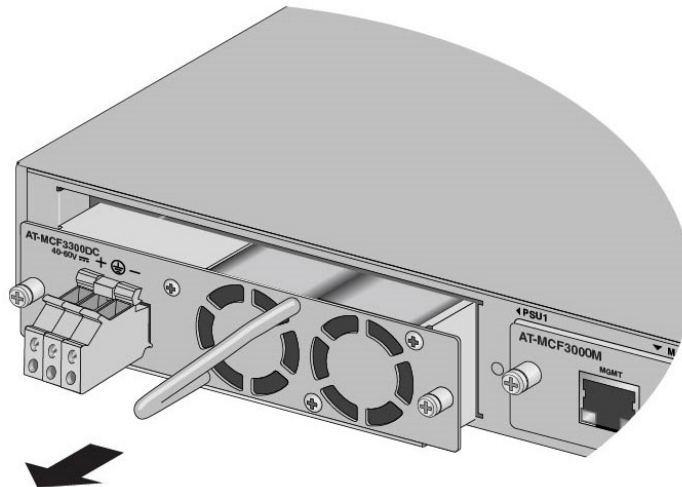

Figure 79. Pulling on the Handle to Disconnect the MCF3300DC Power Supply from the Chassis
6. Pull on the handle to disconnect the power supply from the backplane connector inside the chassis. Refer to Figure 79.